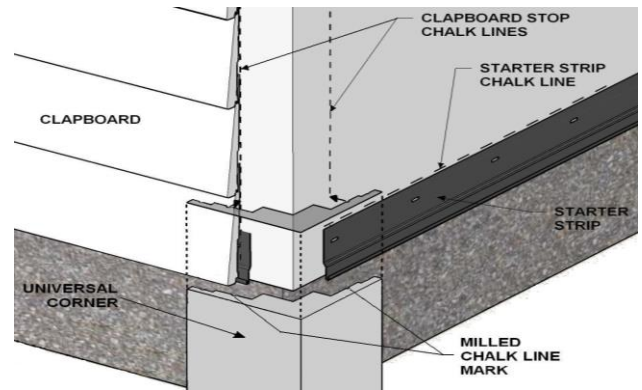

Fig. 1
**Step 1: Snap Vertical Chalk Lines.** Use Chalk Line Mark on Universal Trim and Corners to establish vertical chalk lines (see Fig. 1). Vertical chalk lines provide a reference for the clapboard ends behind the trim.
**Step 2: Install Aluminum Starter Strip.** Snap a level chalk line (see Fig. 1) and fasten Starter Strip to wall every 8" and to every available stud. Fasten Aluminum Starter Strip tight to the wall. Use hot dipped galvanized roofing nails or exterior grade ring shank nails not less than 1-1/4" long. Keep the Starter Strip 1/2" away from all trim and leave 1/4" gap between joined Starter Strips.
**Step 3: Install Clapboard.** Insert the first course of the clapboard into the Starter Strip. Align one end of the clapboard with a vertical chalk line (see Fig. 1). For installation with temperatures of 85° or higher, extend the Clapboard end 1/4" past the chalk line. For installations with temperatures of 50° or lower, position the Clapboard end 1/4" short of the chalk line.